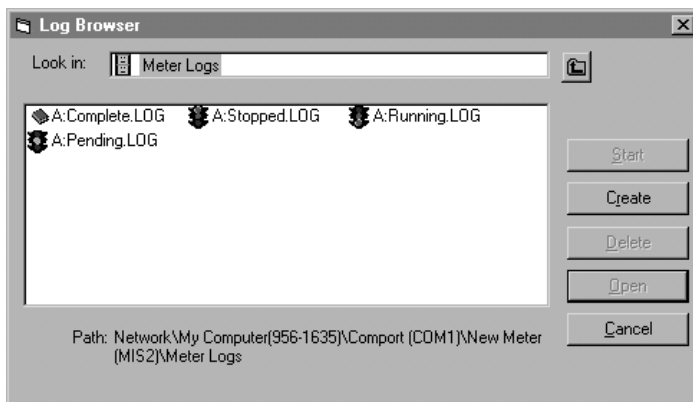

Figure 25: Log browser window
3. Double-click on PC logs to access the stored PC logs, or on the *communication port* name and the *meter name* to access the stored meter logs. In either case, the *log browser* appears similar to Figure 25 below.